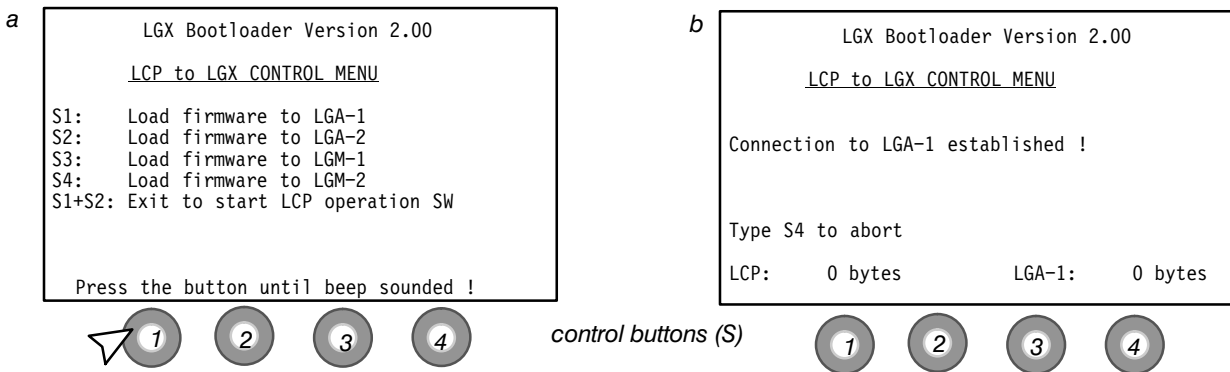

Fig. 6-9 LGX bootloader menu (example)
- Press button S4 at least 1 s to start the LGX bootloader menu (Fig. 6-9 a).
- Select one of the upcoming menu points (Fig. 6-9 a) according to the board which has to be installed. Perform loading procedure as described in 6.6.3.4.2 e) to i).